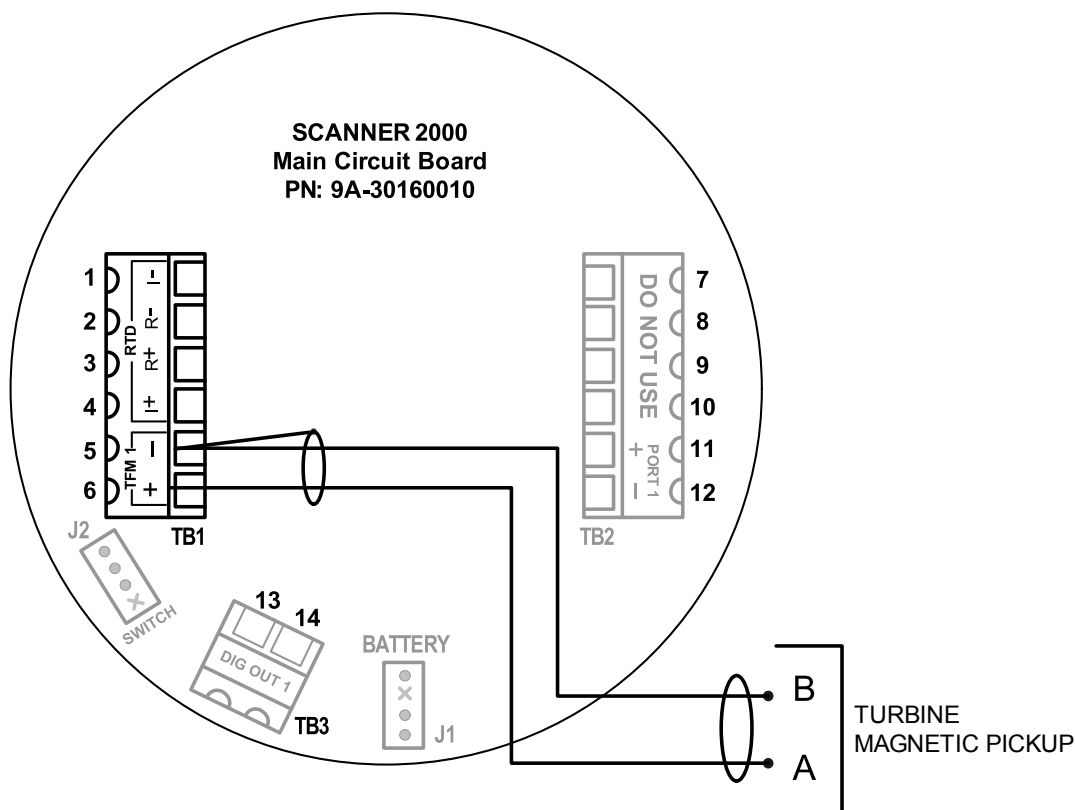

Figure 3.5—Flowmeter input wiring
- Connect the flowmeter input wiring to TB2. See Figure 3.5, page 50.
The Turbine Input on the main circuit board provides the turbine flowmeter input signal generated by a magnetic pickup, enabling the Scanner 2000 to calculate and display instantaneous flow rates and accumulated totals. Wire as shown in Figure 3.5.